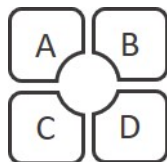

Figure 6. Location and numbering of injection ports on Agilent Seahorse XF sensor cartridges.
- 4 Remove the Hydrobooster from the cartridge. Load 25 μL of compound to each injection port, according to **Table 6**. For the location of the ports, refer to **Figure 6**.